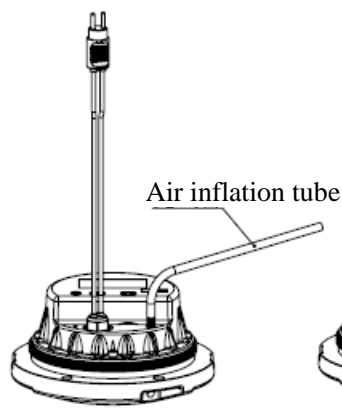

Figure 5-20
- Prepare 138Kpa air source (the air pressure shall not be greater than 150Kpa) and applicable air gun (air tube), inflate the air by aiming at the valve (Figure 5-20) until the air pressure in the lighting fixture meets the requirements. Put this lighting fixture into the water with the depth of 76mm for at least 1min and check whether there are bubbles under the state of static water surface. If not, it means that the sealing property of the lighting fixture is good, otherwise it shall be deemed that the lighting fixture has leakage.